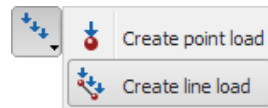

Figure 2.5 The *Create line load* option in the *Create load* menu
-  Select the *Create line load* option in the expanded menu to define a distributed load (Figure 2.5).